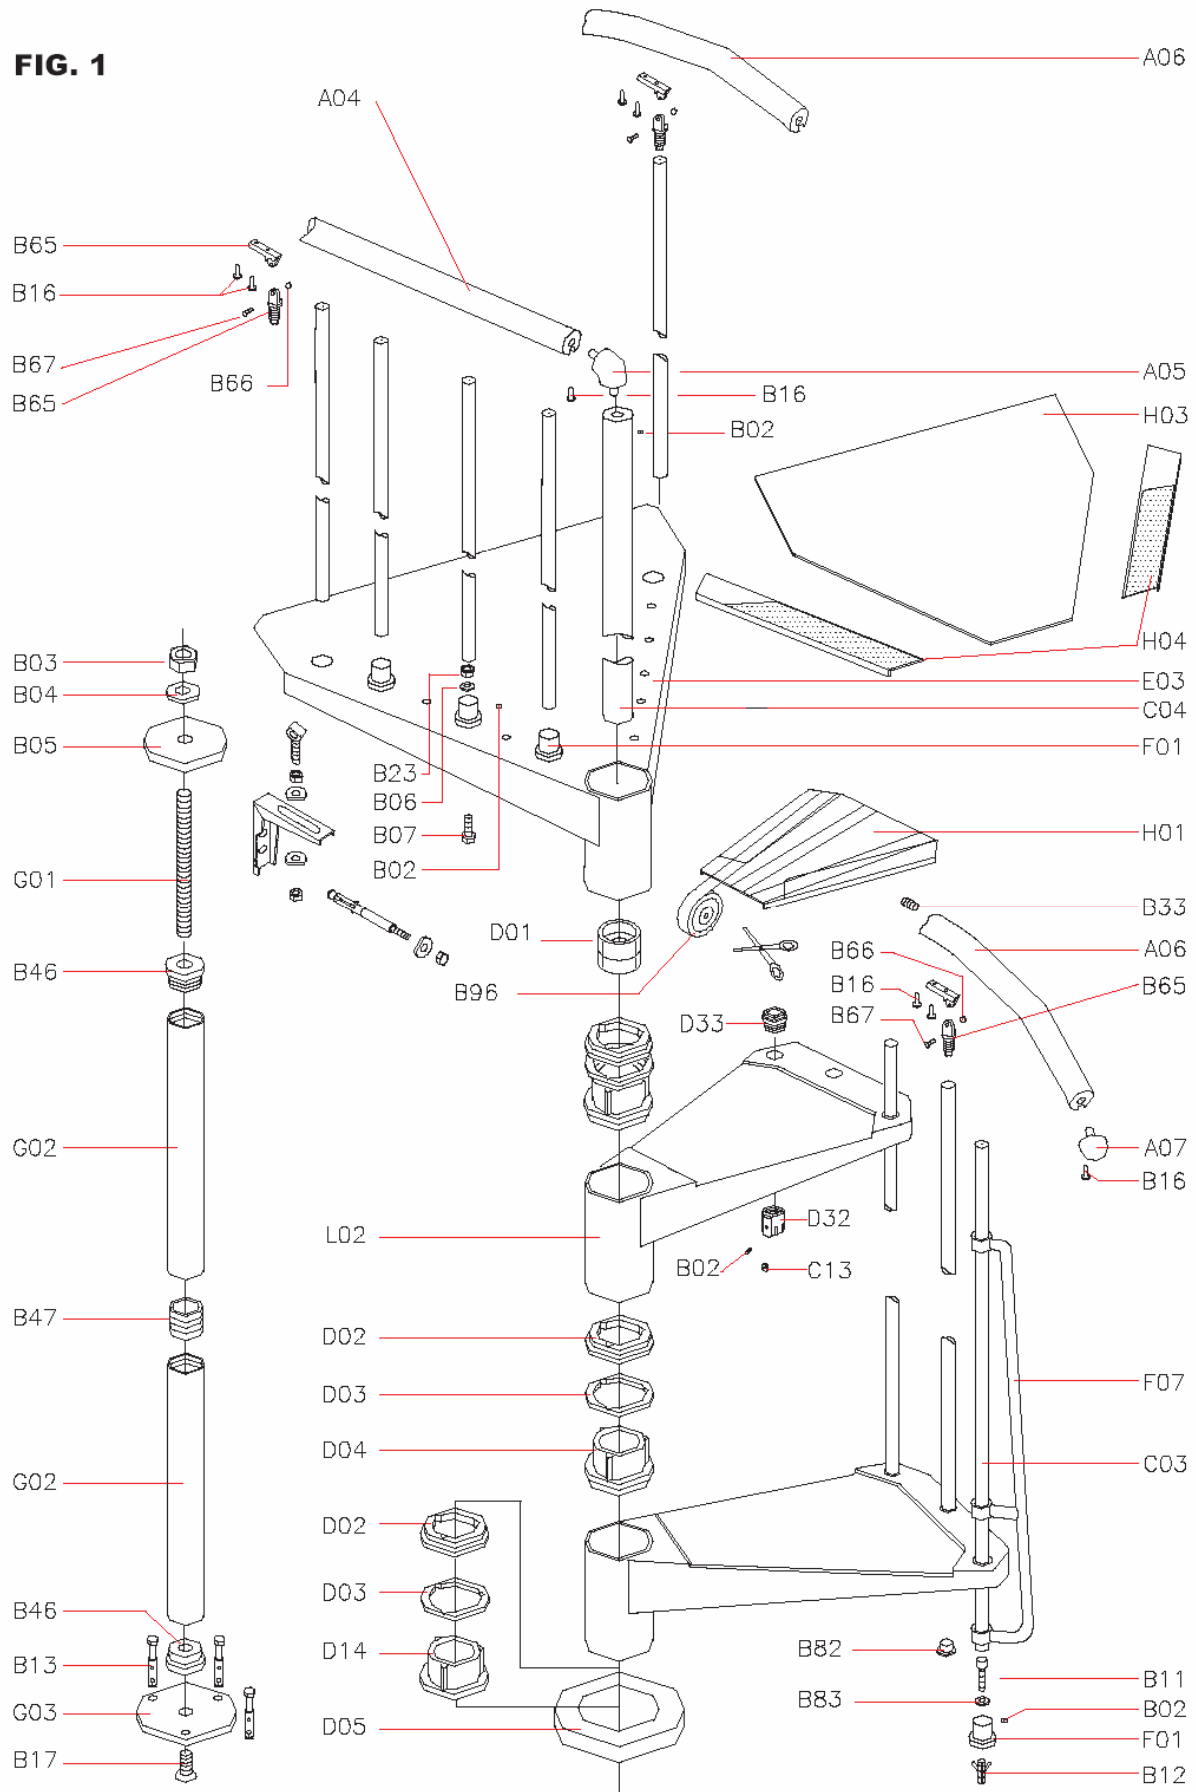

FIG. 2
1. Screw the part B02 into the treads (L02) (fig. 2).